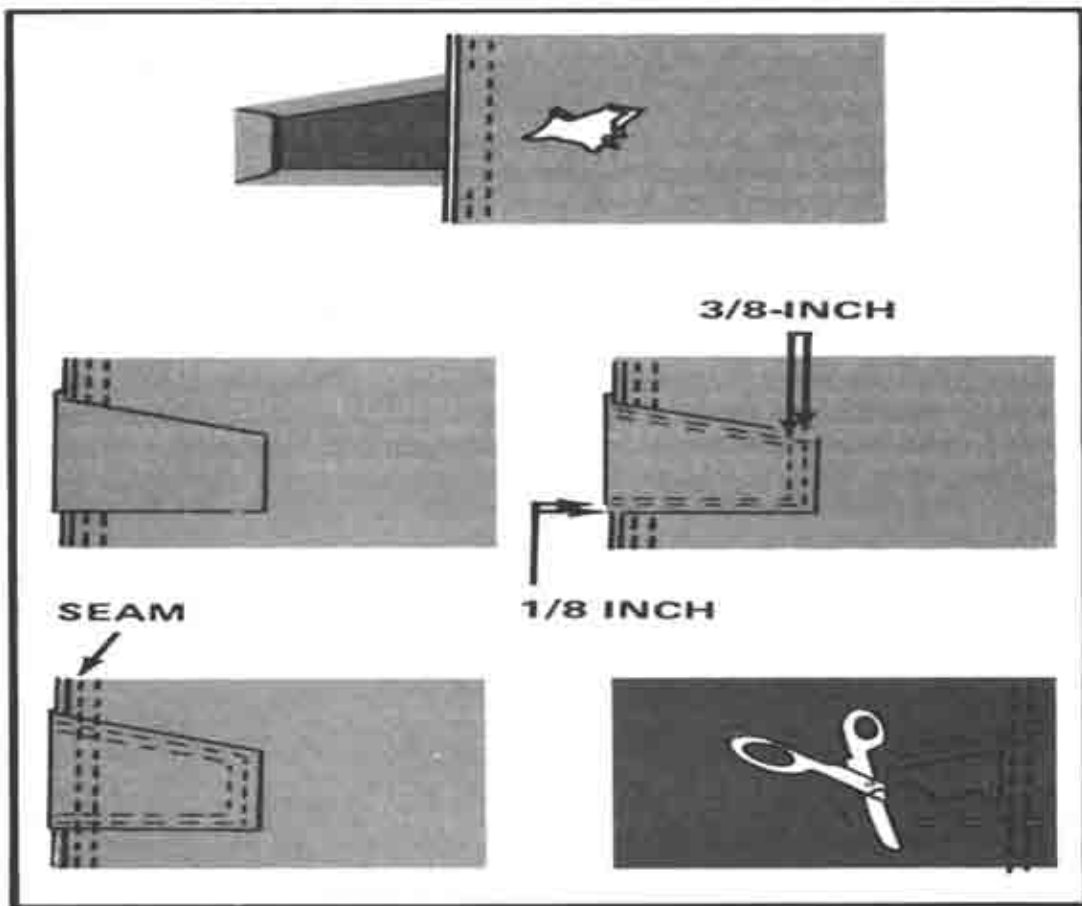

Figure 9-8. On-seam patch
(2) On-Seam Patch. An on-seam patch (Figure 9-8) is like an under-seam patch in that it is used to repair damage near a seam in a canvas item. It differs from the under-seam patch in that it overlaps the seam. To make an on-seam patch--